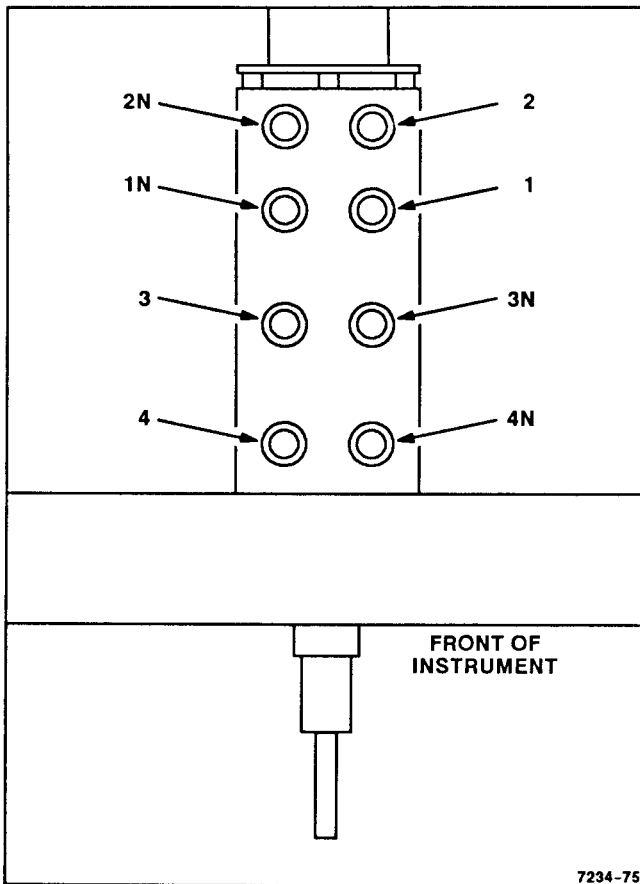

Figure 5-1. Trimmer layout.
- f. ADJUST—Trimmer 1 for flattest response on square-wave signal. See Figure 5-1 for location of trimmers.